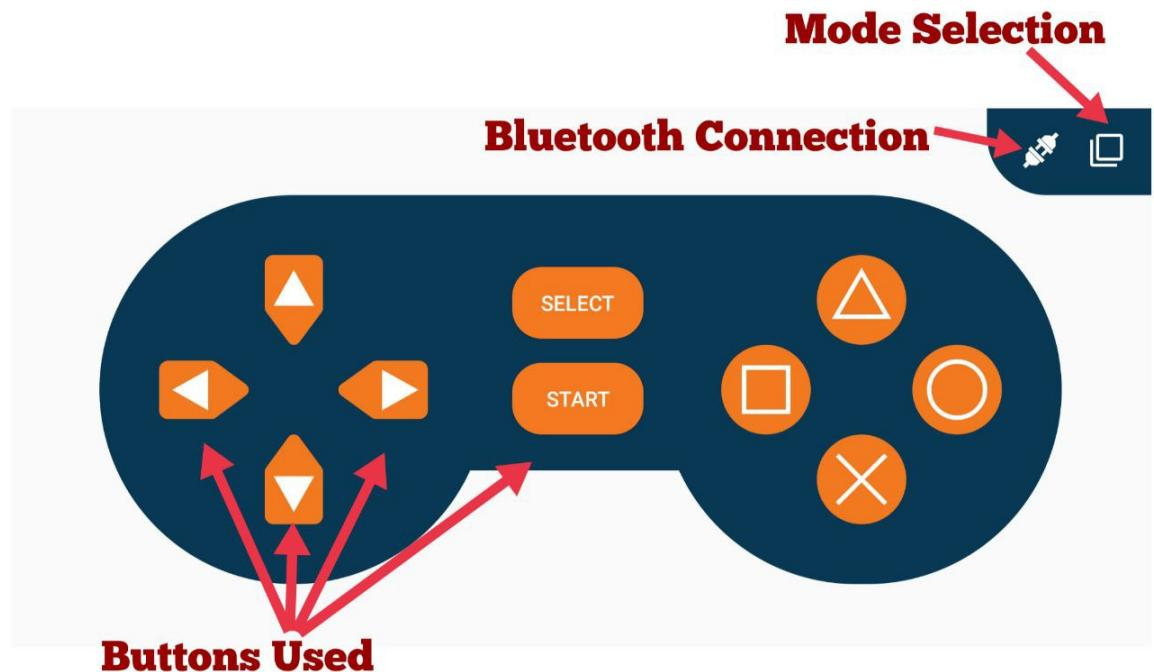

Figure 1.8.5.1: Dabble app Interface
1.8.5. Open the Dabble application. Select gamepad option in the app and then select Digital Mode and connect it app to ESP-32 by connecting it ESP-32 bluetooth as shown in Figure 1.8.5.1.